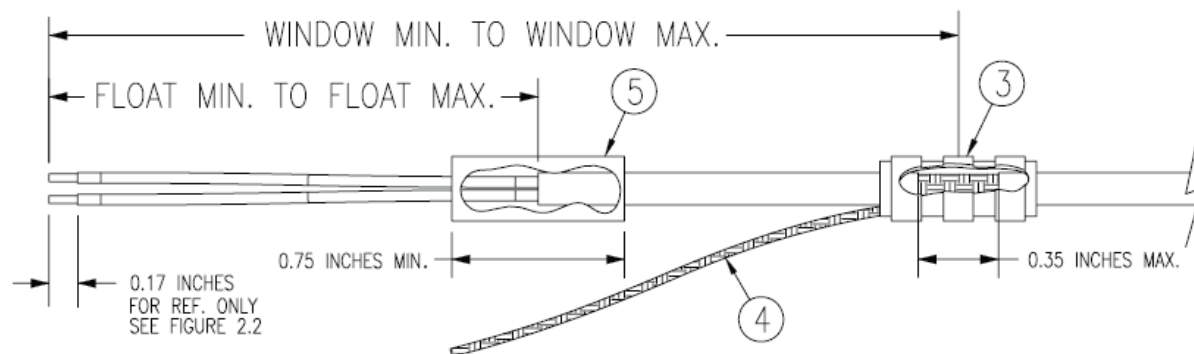

Figure B-6 Method A.1 for Shield Termination
2. At one end of a shielded cable (item 2) measure a distance between “Window Min” to “Window Max” (Table B-6) and cut a window (max size 0.35”) in the jacket to expose the shield (Figure B-6). Use caution when cutting the jacket to avoid damaging the individual braids of the shield. When dealing with a densely populated connector with many cables, it may prove beneficial to stagger the windows throughout the “Window Min” to “Window Max” range. If staggering is not needed the “Ideal Window” length is recommended.
3. Connect a Flat Braid (item 4) to the shield exposed through the window of the prepared cable assembly (item 2) from step 2. The Flat Braid should go out the front of the termination towards the connector. It is not permitted to exit the rear of the termination and loop back towards the connector (Figure B-6). Make this connection using an approved shield termination technique.
- At the same end of the shielded cable (item 2) and ahead of the previous shield termination, strip back “Float Min” to “Float Max” (Table B-6) length of jacket and shield to expose the insulated center conductors (Figure B-6). The “Ideal Float” length may be best to build optimally.